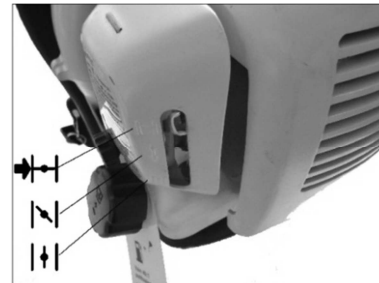

Fig.11
3. Your unit is designed with a 3 position choke: FULL CHOKE " " , PARTIAL CHOKE " " , and RUN " ". Move choke lever to position 1.(Fig.11)
6. Push the Lock-out(C) button and press throttle trigger(B) to run. .